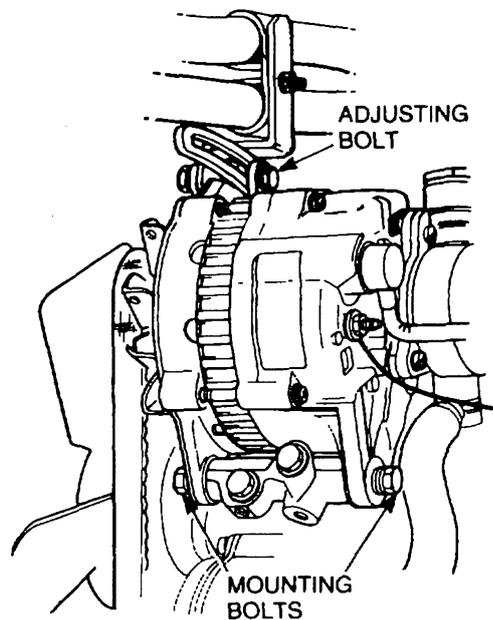

Figure 15 Fanbelt Replacement
- Loosen the alternator mounting bolts and remove the adjusting bolt (Figure 15).
- d. Loosen the alternator mounting bolts and remove the adjusting bolt (Figure 15).